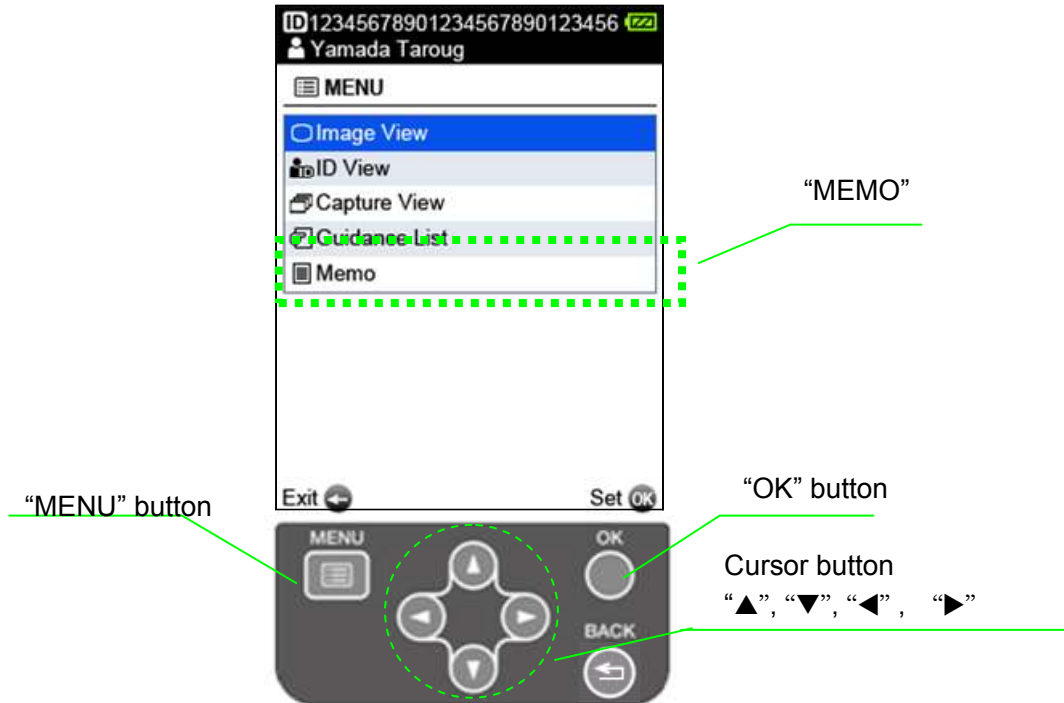

Figure 4.41
2. Choose "Memo" by the Cursor button and push "OK" button. (Refer to Figure 4.41)